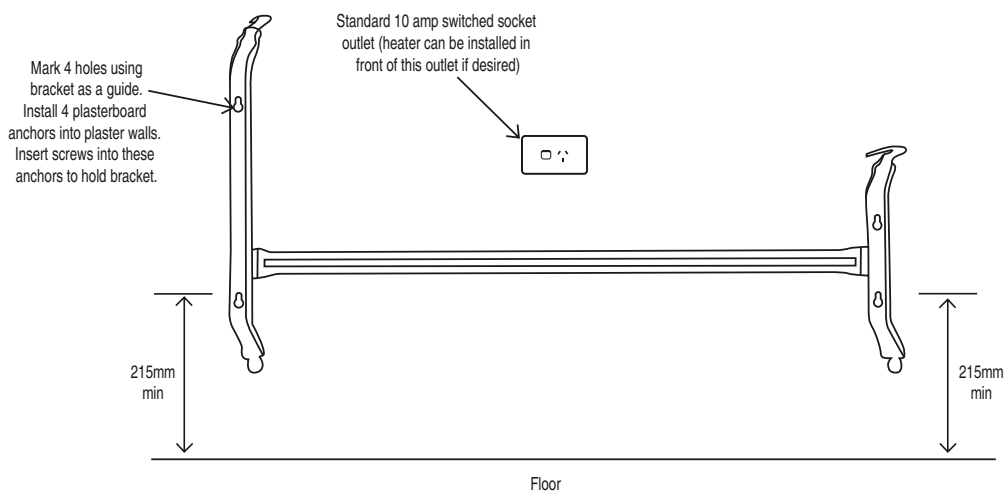

Fig 2 – Wall bracket showing how to attach to a wall
1. This heater may be mounted in front of a standard 10 amp socket outlet with the plug inserted. See Fig 2. Ensure the heater fully covers the socket outlet and plug which results in a very clean looking installation.
3. Using the wall bracket as a template, and, keeping a minimum 215mm off floor level to the bottom holes in the wall bracket, carefully mark the position of the four plasterboard anchors or wallmates (locating a stud is not necessary), using the holes in the wall bracket as a guide. These anchors(not supplied) should be able to support a load of 5kg each. If a stud is accidentally located secure the bracket there using wood screws. See Fig 2. Keep the wall bracket level by placing a spirit level on the horizontal rail of the wall bracket.